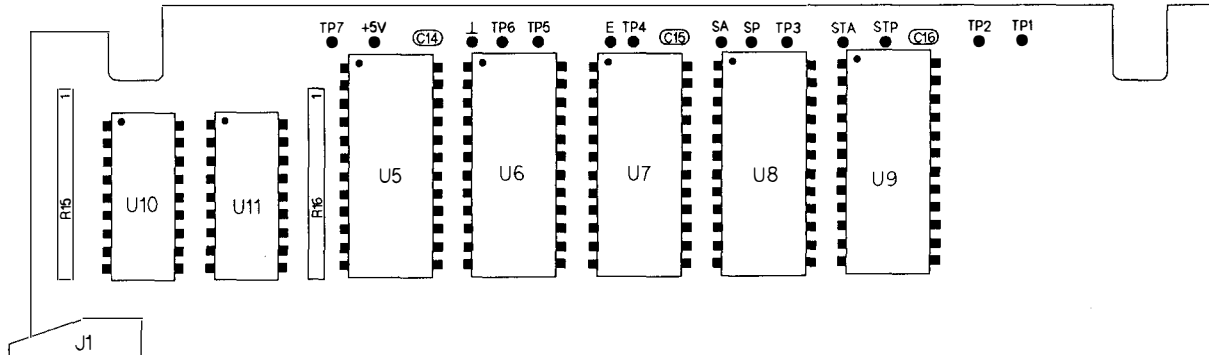

Figure B-2. 08116-66523: U10, U11 layout
2. Figure B-2 shows the location of the RAMs U10 and U11 on the microprocessor board 08116-65503. Modify Chapter 10.7, Figure 10.7-9 accordingly.